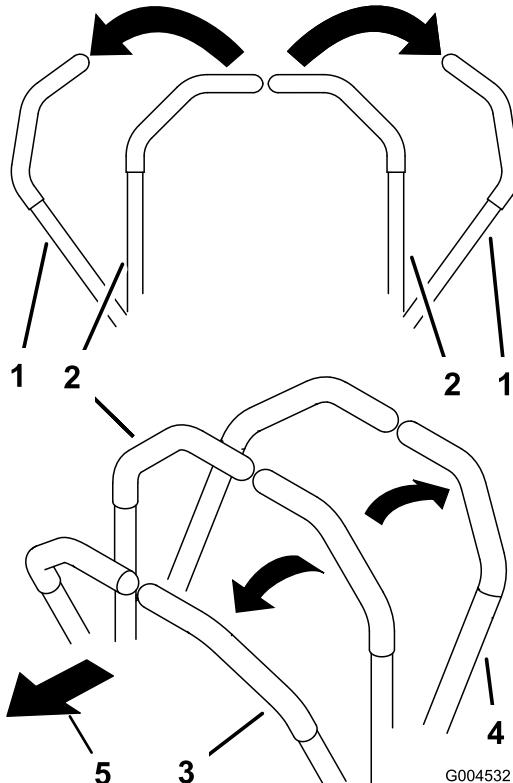

Figure 16
2. To go forward, slowly push the motion control levers forward (Figure 16).